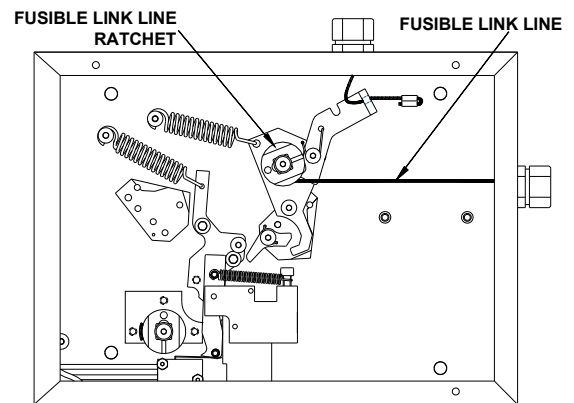

Figure 4-42
1. After installing the fusible link line cable, feed cable into the Systems Releasing Module through the top right-side knockout as shown. See **Figure 4-42**.